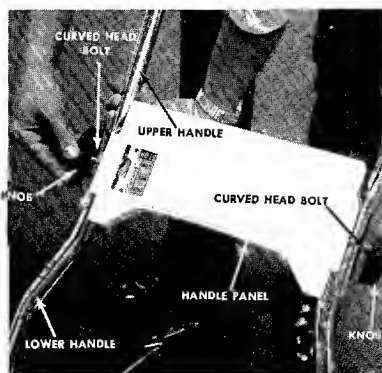

FIGURE 4.
5. Place the upper handle over the lower handle and line up the holes as shown in figure 4.
6. Insert the curved head bolt from the inside and tighten the knob by hand. See figure 4.